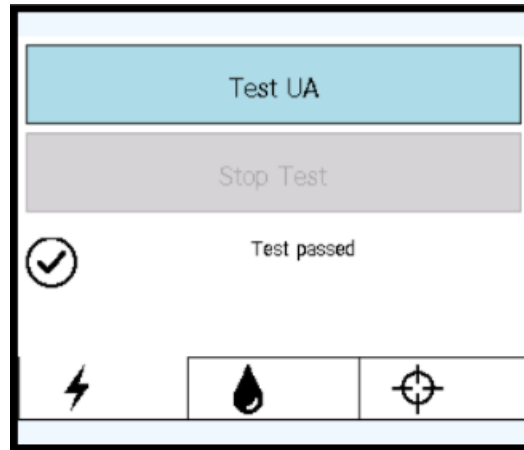
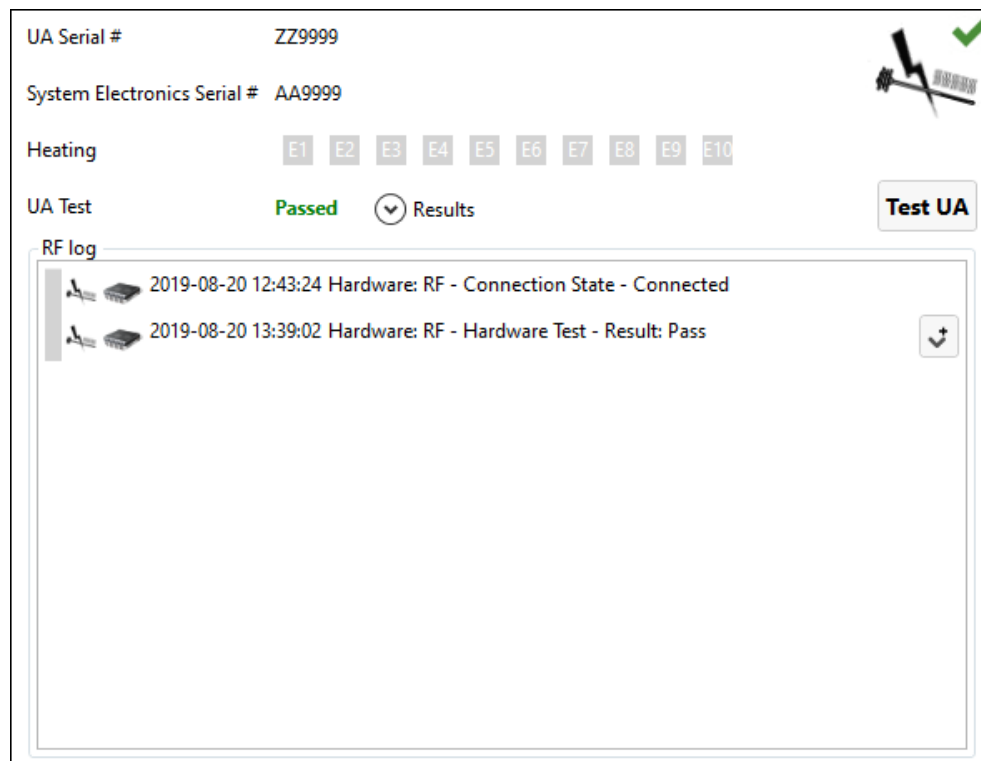

Figure 15: RF tab on PSIB display after successful RF connectivity test
Figure 16: RF information box in Setup workspace after successful RF connectivity test
3. In the **RF** tab ⚡ of the PSIB display, click **Test UA** (*Figure 15*).
The system will send a short burst of power to each of the ten UA elements to ensure continuity and functionality of all ten channels. This can also be done from the TDC Setup workspace from the RF information box in the top-right quadrant (*Figure 16*).
When the RF connectivity test is complete, the PSIB will display a short message (*Figure 15*). You can see detailed RF connectivity test results in the RF information box of the TDC software (*Figure 16*).